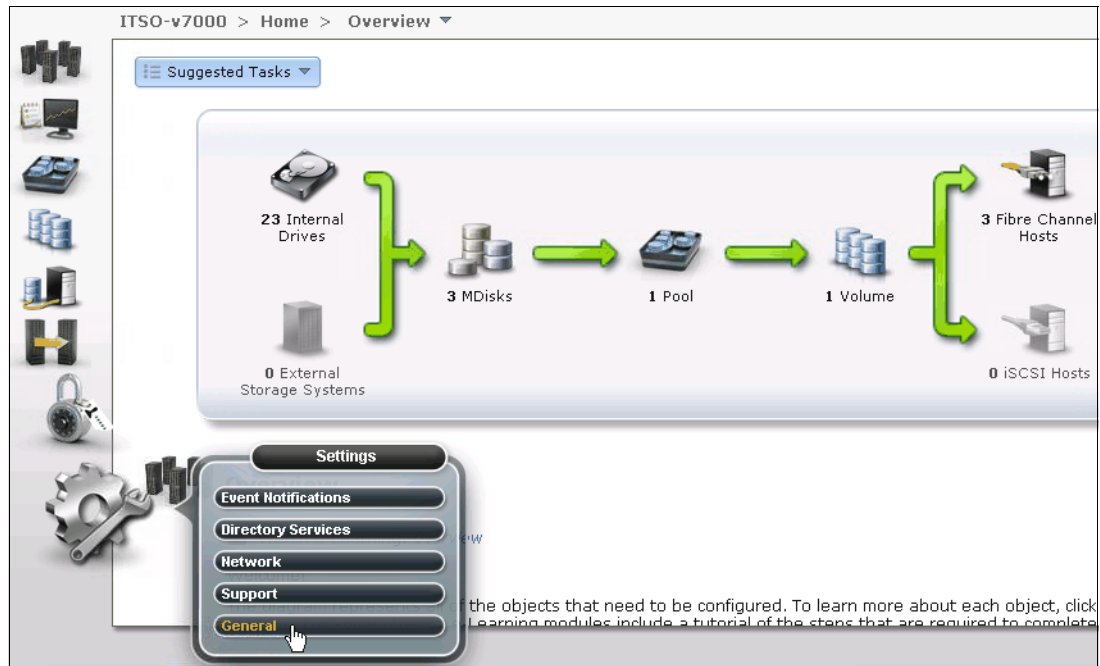

Figure 13-8 Settings menu
- Log in as your superuser. The IBM Storwize V7000 management home window opens. Move the mouse cursor over **Settings** → **General** (Figure 13-8) and click **General**.